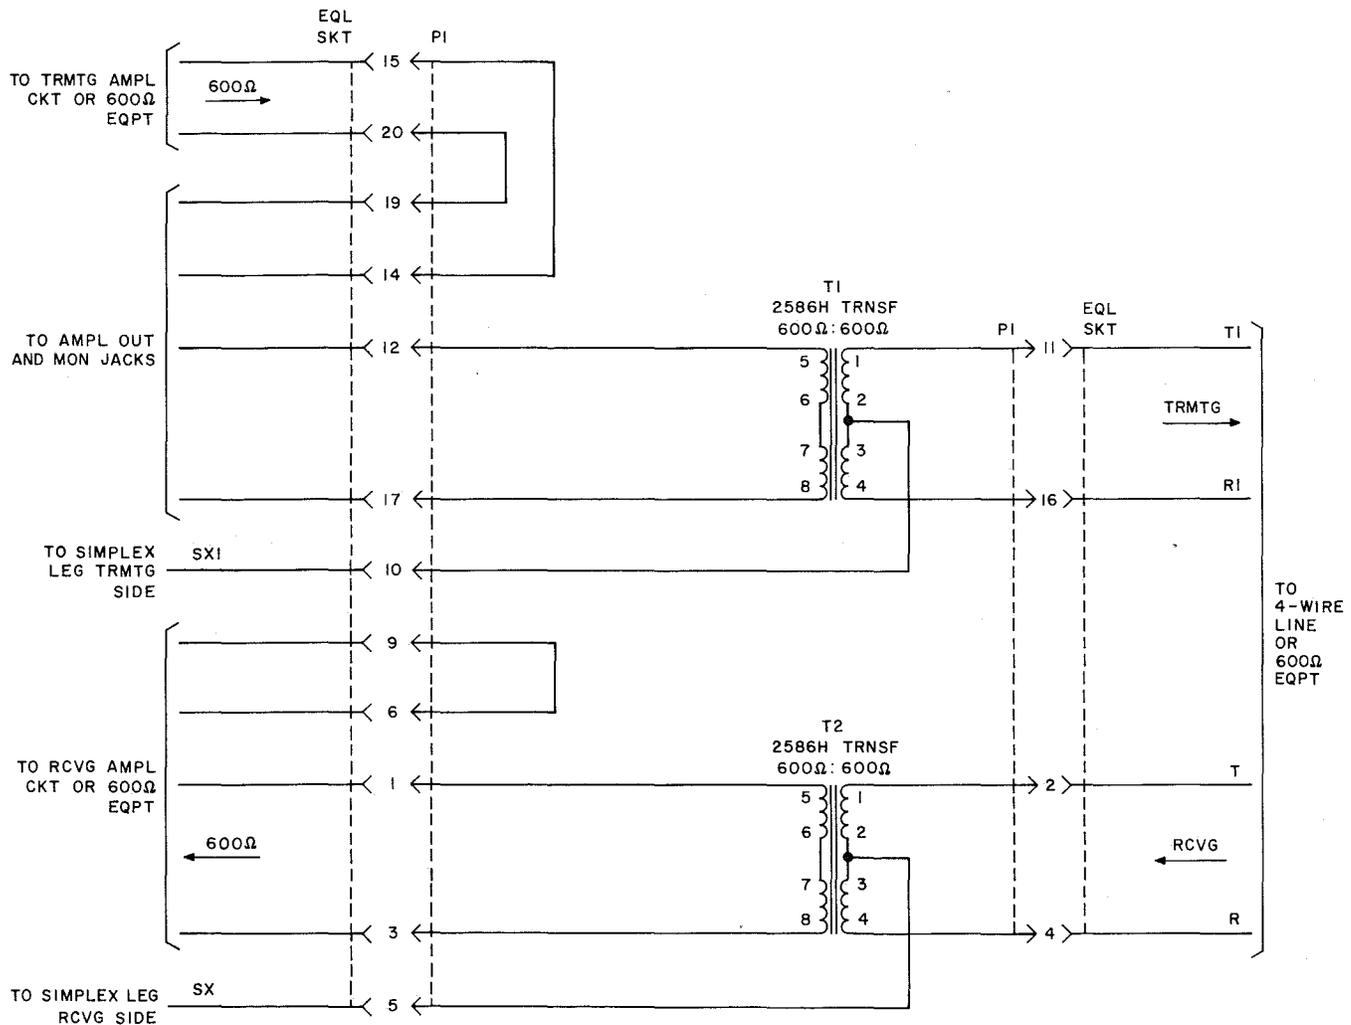

Fig. 2—359F Equalizer—Schematic and Typical Circuit Connections
3.01 Figure 2 is a schematic illustrating typical circuit connections when the 359F equalizer is plugged into the equalizer socket of a 24V4 or